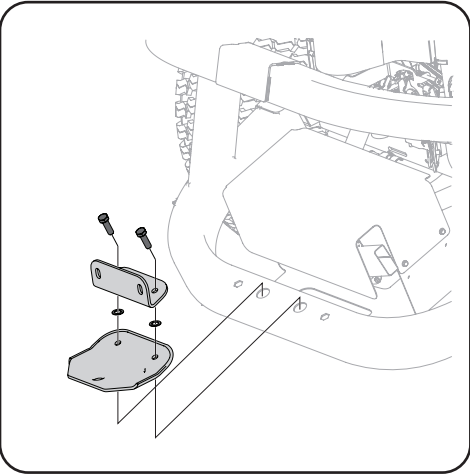

Figure 4-3
- Install bracket assembly to the tractor's lower frame with two capscrews (710-0376). See Figure 4-3.